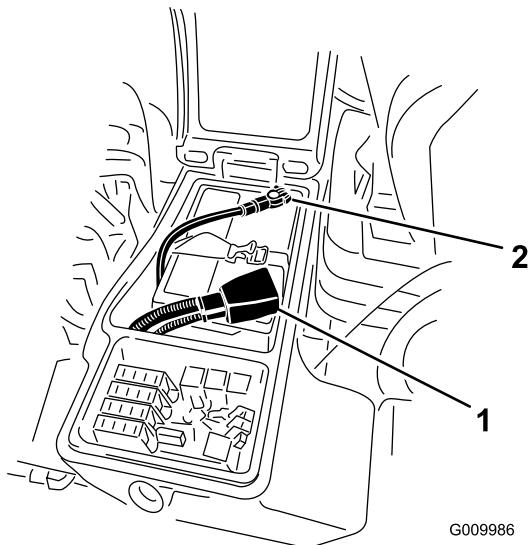

Figure 52
3. Remove the negative cable (black) from the negative (-) terminal and the positive cable (red) from the positive (+) terminal of the battery (Figure 52).
- Install the positive cable (red) to the positive (+) terminal and the negative cable (black) to the negative (-) terminal of the battery (Figure 52).